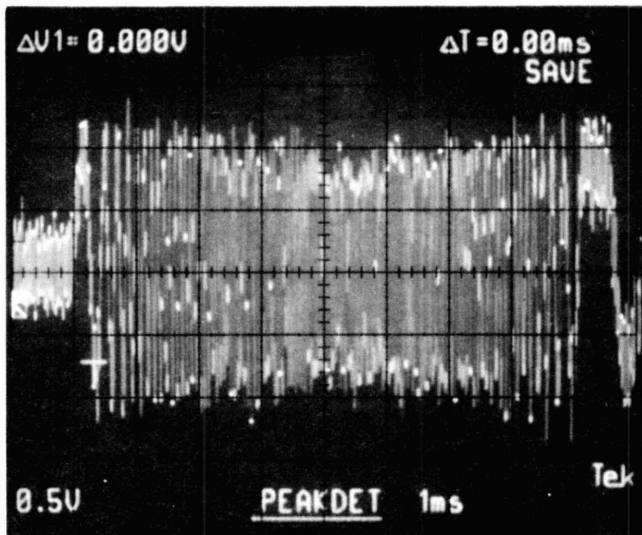

Figure 20
F. Rapidly press the **Forward-Skip** button and adjust the oscilloscope's time-base to obtain a long seek display as shown in Figure 20. Verify that the **positive** and **negative** going peaks are of **equal magnitude**. If not, return to step C.